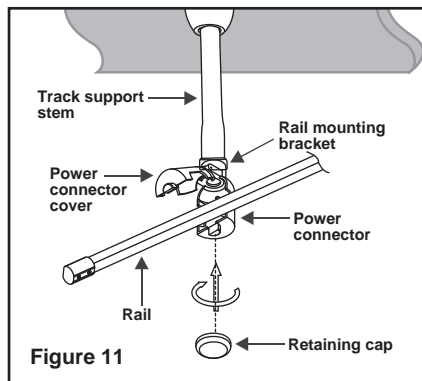

Figure 11
6. Remove the retaining cap from the track support stem assembly, open the rail mounting bracket, and then insert the flexible rail mounting bracket. Replace the retaining caps to secure the flexible rail. (Fig. 11)